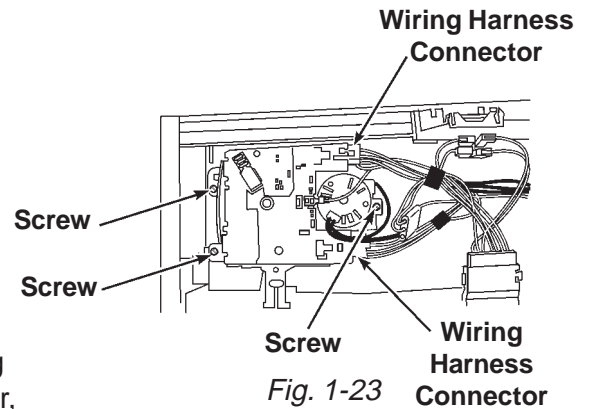

Fig. 1-23
2. Disconnect the wiring harness connectors from the timer terminals. (Fig. 1-23)
3. Remove the three (3) Hex-head screws securing the timer to the door frame. (Fig. 1-23) The timer, cam and cam follower can now be removed.